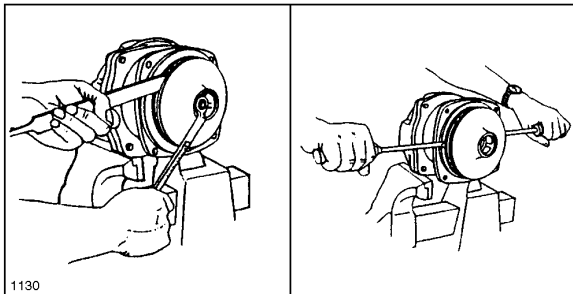

FIG. 6
2. To remove the impeller nut, clamp the flange in a vise and insert a large screwdriver or file (at least 10" long) into impeller vanes to prevent impeller from turning when loosening nut. Use a 5/8" box end or socket wrench to remove the impeller nut by turning it counterclockwise. See FIG 6.
3. Once nut is removed, place a screwdriver on each side (FIG 6 ) behind the impeller and pry away from the mounting flange. Remove woodruff key from the shaft. Remove O-ring from the mounting flange. Remove O-ring and discard. O-ring should always be replaced.